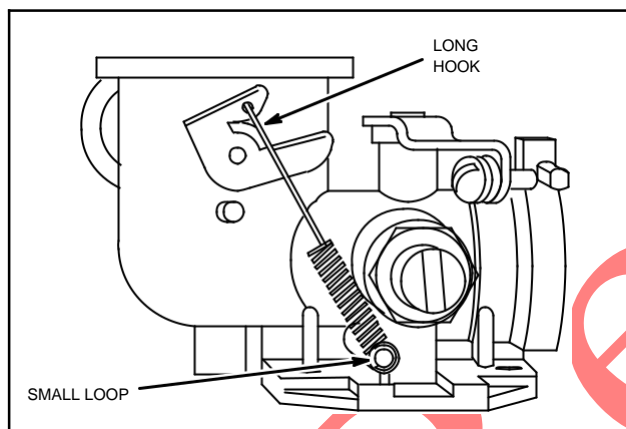

Fig. 161 - ASSEMBLE CHOKE-A-MATIC SPRING
**NOTE:** On vertical crankshaft Model Series 92500 (Type Number 0600 and under) hook small loop on post on carburetor body and long hook on choke shaft lever, Fig. 161.